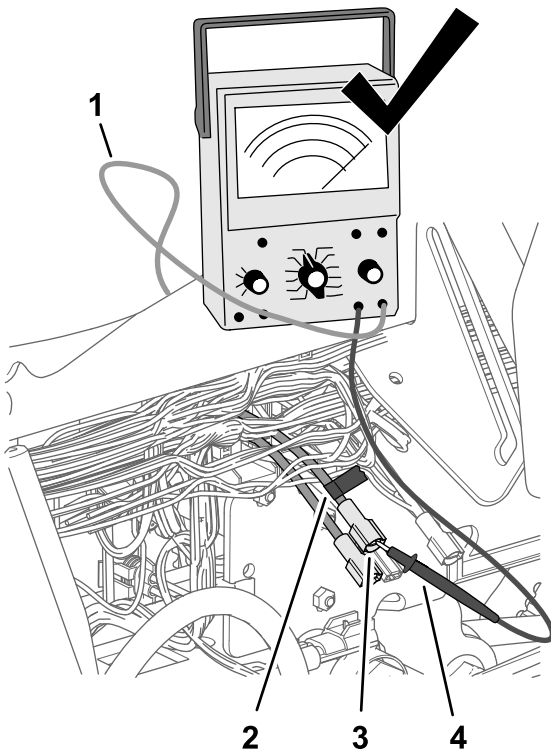

Figure 189
4. Use a piece of tape to mark the connector and wire that you identified in step 3 (Figure 189).